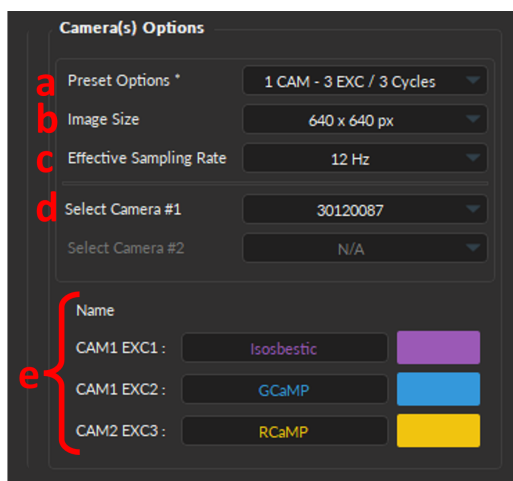

Figure 14.15: Recording Channel - Camera Options
1. The **Camera Options** (Fig. 14.15) defines which preset option to use and allows users to select the proper camera and camera parameters for the recording, such as:
- a) The **Preset Options** drop-down (Fig. 14.15, a) contains six pre-configured options which are listed in Table 14.2, along with their use cases.
- b) The **Image Size** drop-down (Fig. 14.15, b) sets the resolution (pixel x pixel) of the Image stack from which ROI(s) will be computed. There are six options, among which the lowest available *Image size* is 256 x 256, and the maximum is 1024 x 1024. Note that if the save **Image Stacks** option is enabled, using a large resolution will result in larger *.doric* data files.
- c) The **Effective Sampling Rate** drop-down (Fig. 14.15, c) sets the true frequency (in Hz) of each **EXC** since, when more than one excitation is used, the excitations are interleaved with one another, reducing the sampling rate by half (for 2 EXC) or by a third (for 3 EXC). Thus, the following **Effective Sampling Rate** are available according to the number of excitations:
- d) The **Select Camera #** drop-down (Fig. 14.15, d) sets which CMOS camera sensor will be labeled as **CAM1** and **CAM2** (if in use), by selecting the *Camera ID*.
- e) The **Name CAM# EXC#** (Fig. 14.15, e) allows users to label the specific **Camera excitations** with more intuitive name. This setting also lets users select the trace color for the data collected during the corresponding excitations.